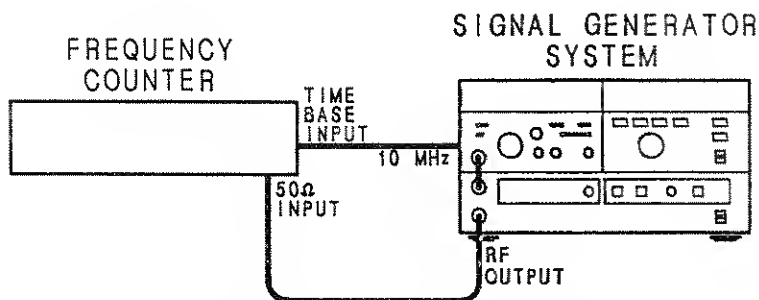

Figure 4-3. Frequency Range and Resolution Test Setup
1. Connect the equipment as shown in Figure 4-3.